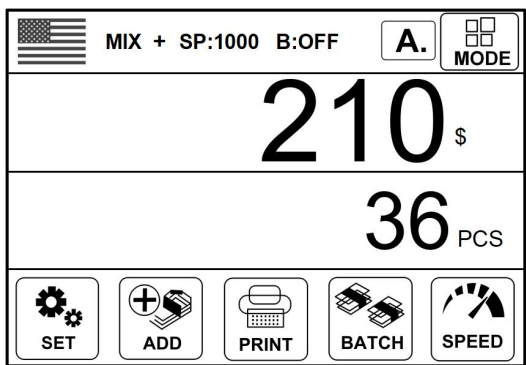

Figure 26
2) Example: Put the US dollars into the machine for counting first, and the machine interface displays as follows at the end of counting: The flag in the upper left corner is identified as US dollars, as shown in the following Figure 26.